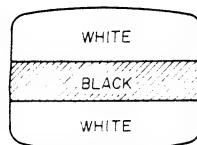
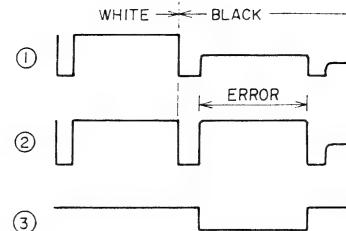

Fig. 30
Fig. 31
When the picture shown in Fig. 30 is displayed, the signal pattern involved in the white/black interface is as illustrated in Fig. 31. If the signal pattern mentioned above is delayed by 1H, a different signal pattern shown in ② will be produced. Subtracting ② from ① will result in the signal pattern illustrated in ③ above, which is then added to ① to adjust vertical color errors.